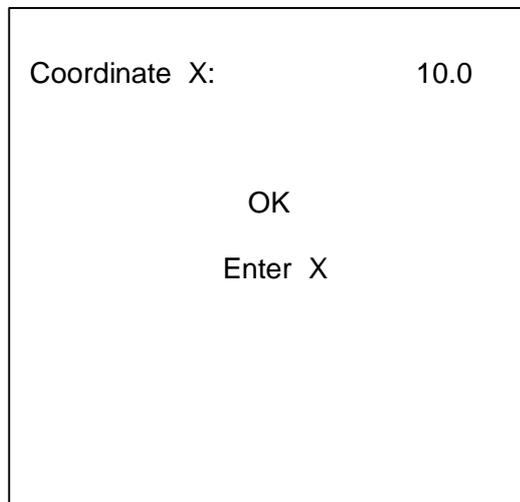

Figure 20
- Use ? to open a menu in Figure 20.
- For entering another value select *Enter X*. *Enter Number Menu* will be opened for typing in any “X” coordinate. Confirming the “X” coordinate by pressing *OK* in Figure 20 will take you back to Measuring Mode Menu.